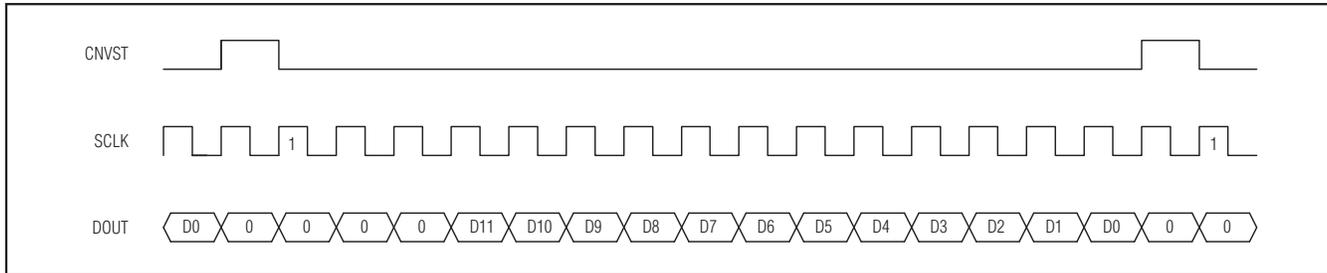

Figure 17. DSP Interface—Continuous Conversion
The MAX1276/MAX1278 can also be connected to the TMS320C54\_ by using the data transmit (DX) pin to drive CNVST and the CLKX generated internally to drive SCLK. A pullup resistor is required on the CNVST signal to keep it high when DX goes high impedance and 0001hex should be written to the DXR continuously for continuous conversions. The power-down modes may be entered by writing 00FFhex to the DXR (see Figures 17 and 18).
ters should be configured for late framing (LAFR = 1) and for an active-low frame (LTFS = 1, LRFS = 1) signal. This is also the best way to enter the power-down modes by setting the word length to 8 bits (SLEN = 1001). Connect the VL pin to the ADSP21\_ \_ \_ supply voltage when the MAX1276/MAX1278 are operating with a supply voltage higher than the DSP supply voltage (see Figures 17 and 18).